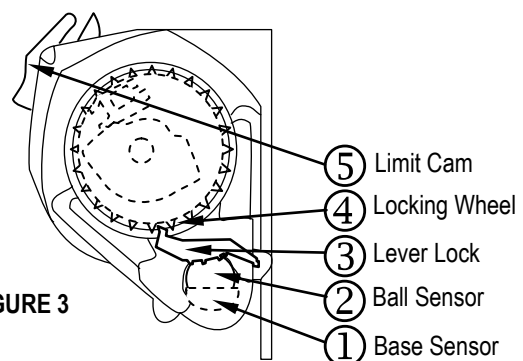
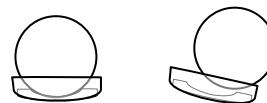

FIGURE 3
FIGURE 4
2. Once positioned correctly the Ball sensor (Fig.3 item 2 & Fig.4) should be at its lowest position inside the Base Sensor (Fig.3 item 1 & Fig.4) allowing the Lever Lock (Fig.3 item 3) to fall, disengaging the Locking wheel (Fig.3 item 4).
3. If the Lever lock (Fig.3 item 3) is still engaged while the retractor is positioned correctly, roll the webbing in a little further. This should unlock the internal mechanism and allow the Lever lock (Fig.3 item 3) to fall.
5. Place the Yellow Plastic Limit Cam (Fig.3 item 5) back into position to allow for easier installation.